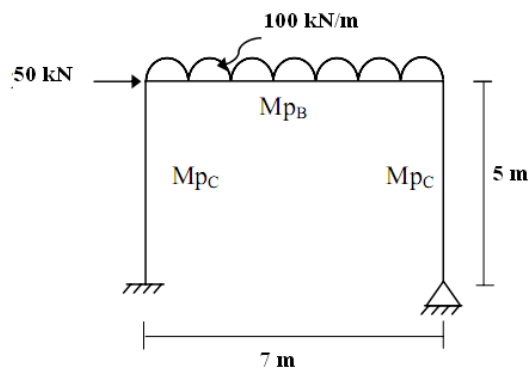

Figure 3
Q.5 Using plastic method, formulate the objective function and constraint equations for the Figure 3. Also obtain the solution for minimum weight. **14**